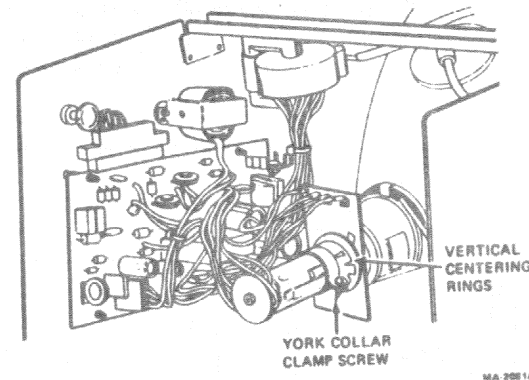

Figure 4-4 Ball Monitor CRT Adjustments
2. Loosen the yoke collar clamp screw (Figure 4-4), and turn the yoke until the four sides of the screen display are parallel to the edges of the red shaded areas of the alignment template.
3. Center the presentation by rotating the centering tabs on the yoke (Figure 4-4).